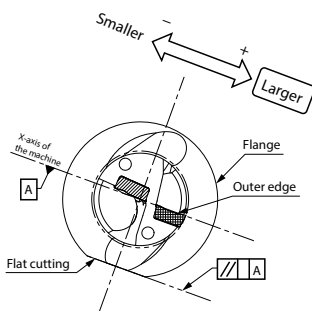
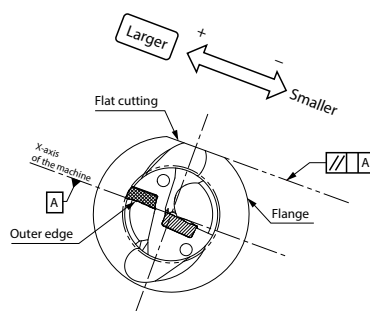

Fig. 2 Outer insert facing up
Fig. 3 Outer insert facing down
Most lathe problem occur due to center height deviation. The center height is appropriate if a core approximately 0.5mm diameter remains at the center of the end face. (Fig. 3) Center-height adjustment is necessary for the case as follows:
2. In case of making the hole diameter larger, slide the tool along the X-axis toward the outer insert side. (Fig. 2, Fig. 3)